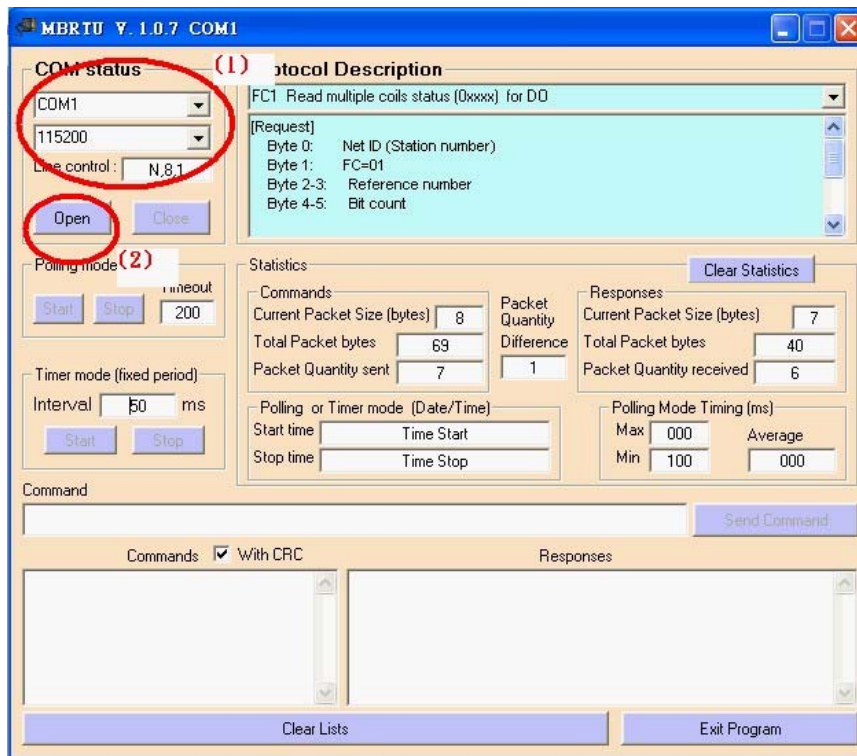

Figure 22: MBRTU Utility
Step 5: Start the test utility "MBRTU" (figure 22) on the PC.